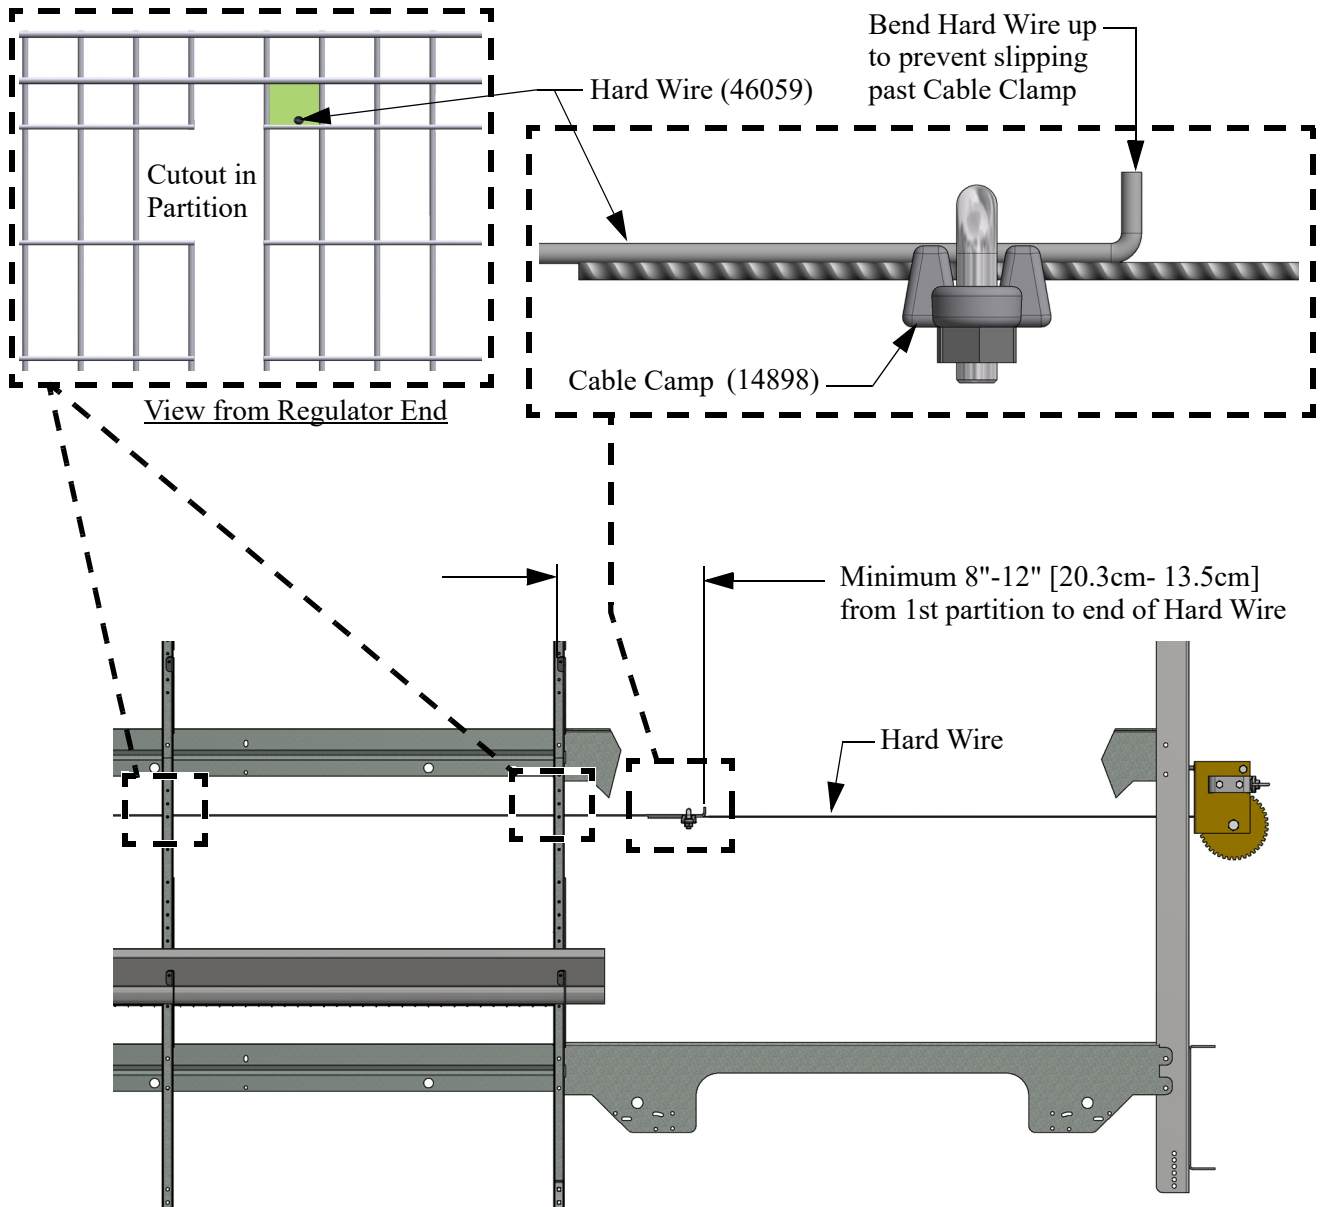

Figure 6. Hard Wire Installation
1. Install Hardwire (46059) starting at the Winch end by feeding it through the Partitions in the location shown below in **(Figure 6.)**